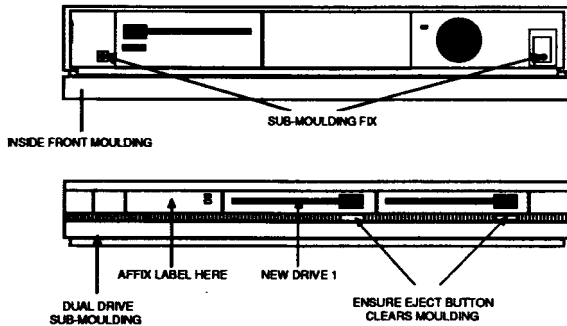

Fig. 5 - Front moulding assembly details
9. Taking the front moulding assembly, locate and remove the two self-tapping screws at each end inside the main moulding and slide the sub-moulding away from the main moulding (see Fig. 5).